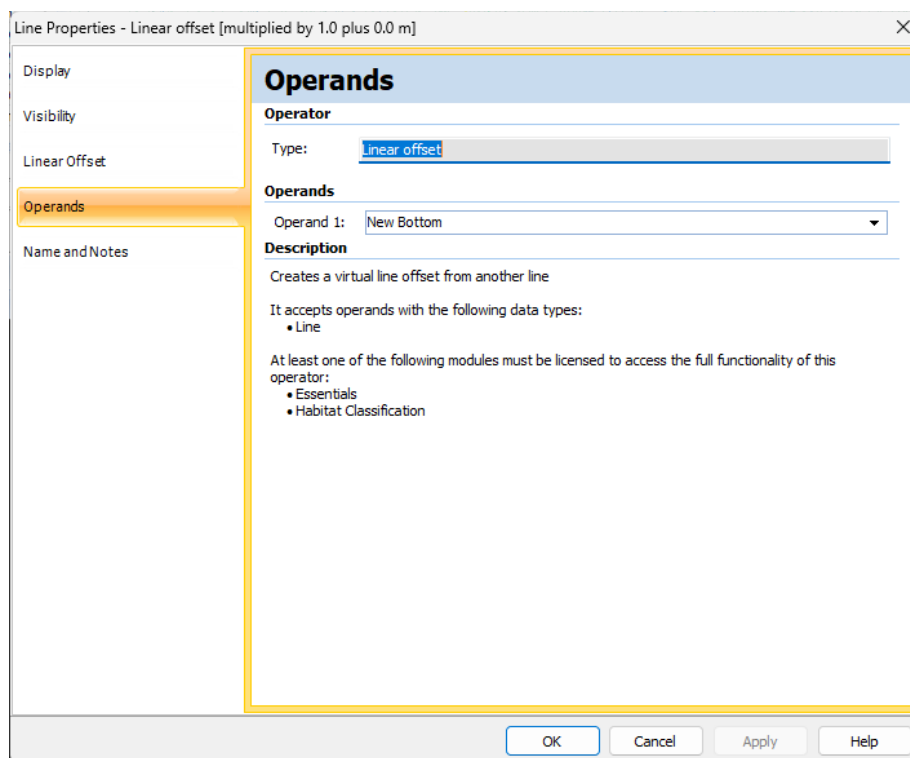

Figure 24. Line Properties dialog box.
36. In the **Line Properties – Linear offset [multiplied by 1.0 plus 0.0m]** dialog box, on the Operands page, under Operand 1, select **New Bottom** from the list. See Figure 24.